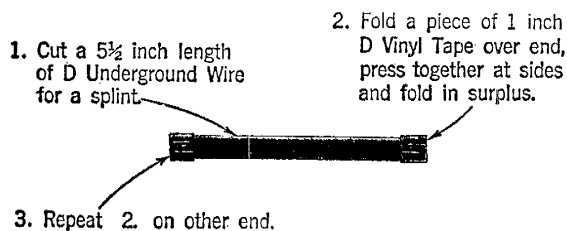

Fig. 9
4.02 Provide a length of D Underground Wire to act as a splint to stiffen the splice as shown in Figs. 9 and 10.